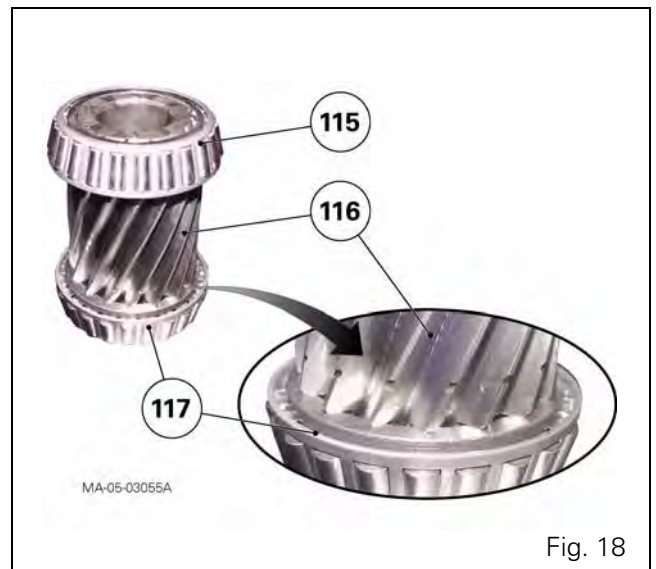

Fig. 18
NOTE: Ensure the pinion (116) is positioned correctly. The marks on the teeth should be turned towards the bottom of the housing (Fig. 18).